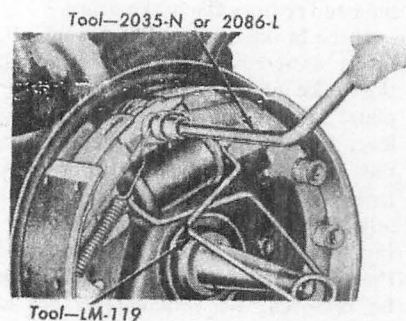

FIG. 12—Typical Retracting Spring Removal
1. With the wheel and drum removed, install a clamp over the ends of the brake cylinder as shown in Fig. 12.
2. Remove the secondary shoe to anchor spring with the tool shown in Fig. 12. With the same tool, remove the primary shoe to anchor spring. Unhook the cable anchor.